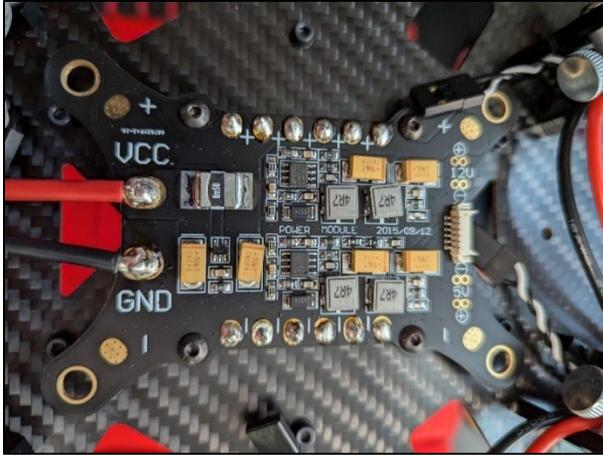

Figure 40 Solder applied to PDB contacts
1. Apply a small amount of solder to each of the 12 pads on the PDB as shown in **Figure 40**.